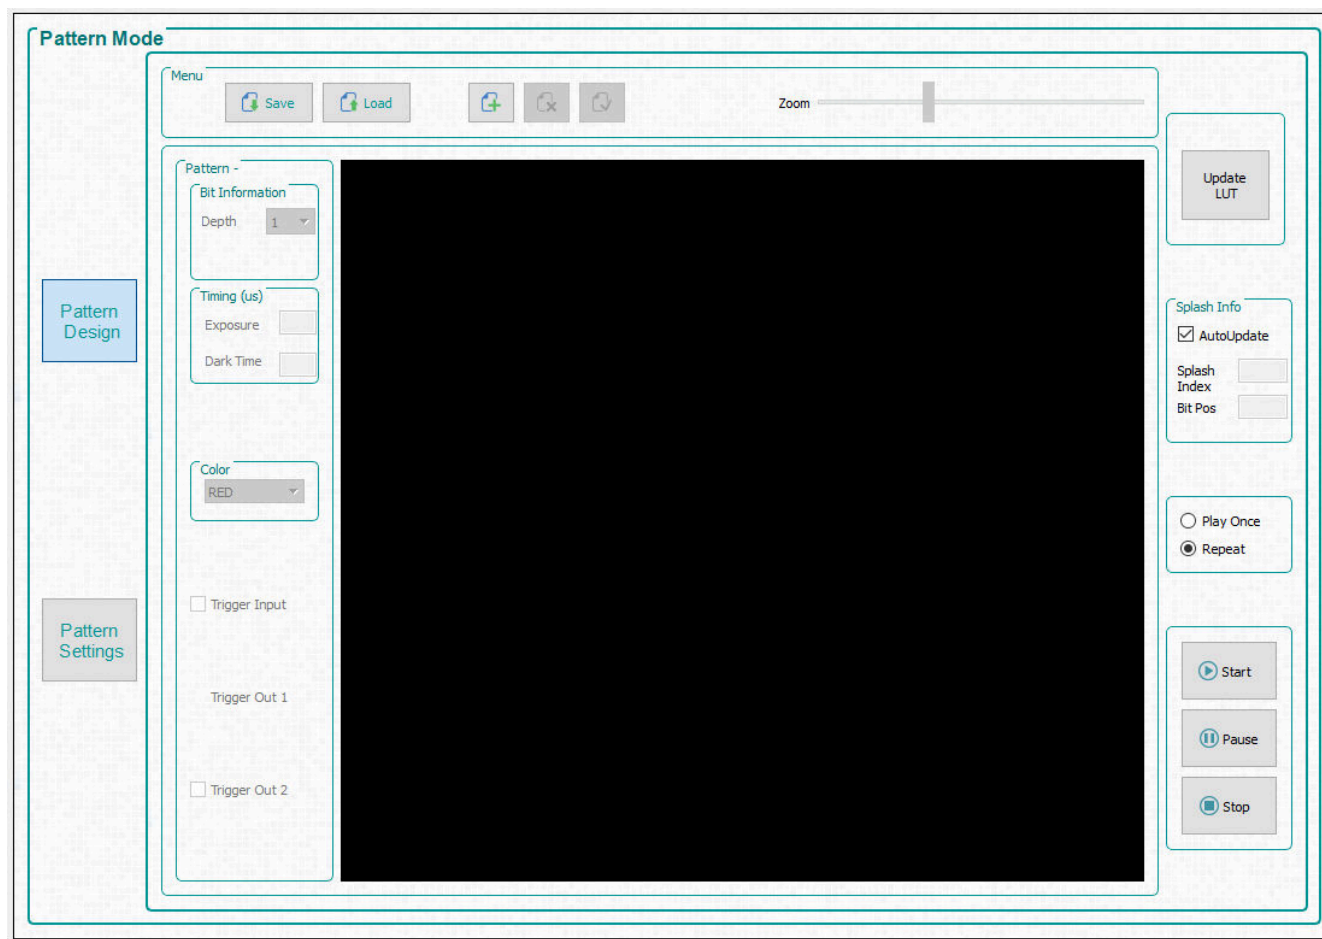

Figure 3-6. Pattern Mode Design Panel
Click the *Pattern Mode* button at the top of the GUI to display the *Pattern Mode* panel as shown in Figure 3-6.
2. Select *Pattern On-The-Fly Mode* from the *Operating Mode* group box, and then click the *Pattern Design* button so that the large black panel is displayed as shown in Figure 3-6.